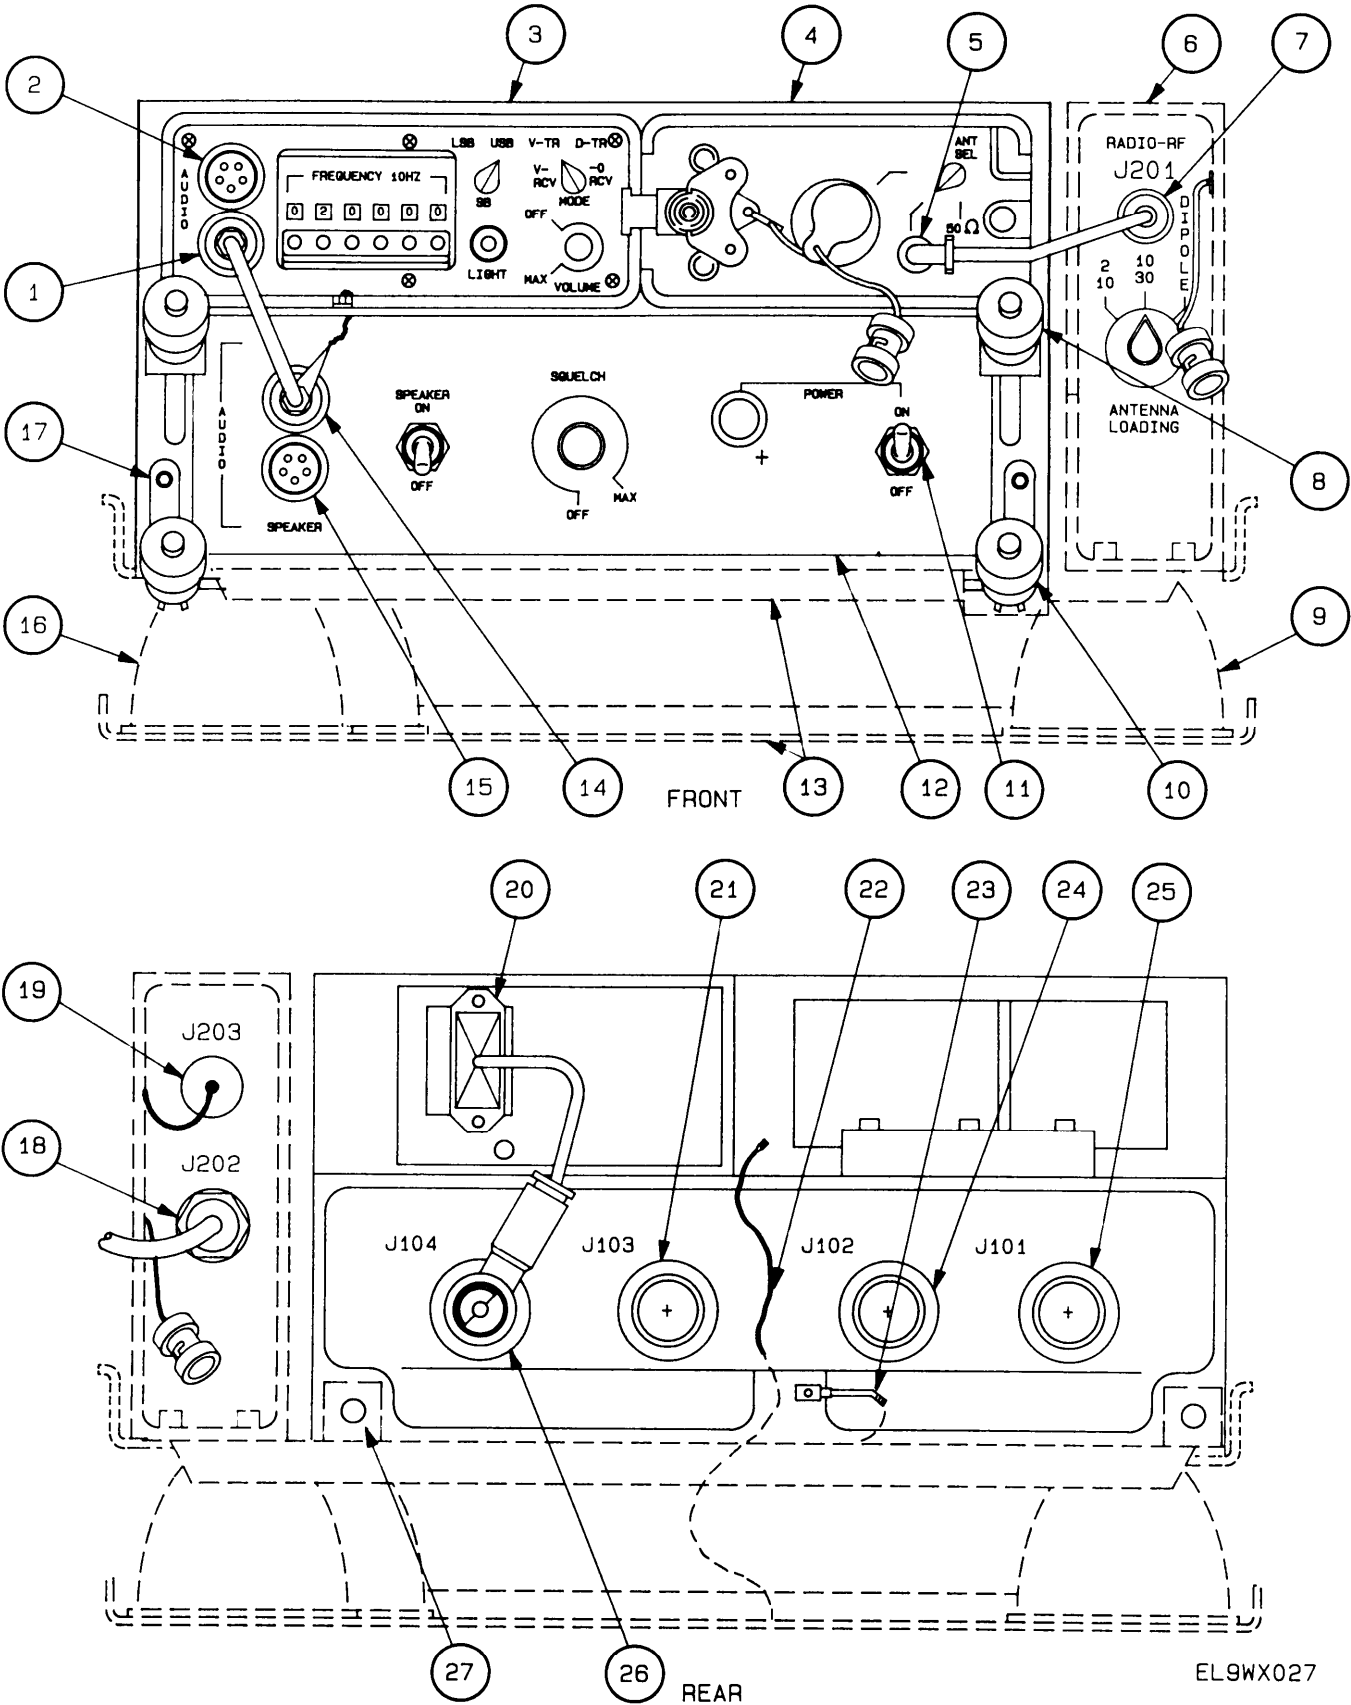

Figure 5-2. Controls and Connectors for Cleaning and Corrosion Control
Sparks may damage power cable or connector J101 (25, fig. 5-2) if POWER circuit breaker on amplifier-power supply is not properly set to OFF in following steps.
- b. Verify POWER circuit breaker (11, fig. 5-2) on amplifier-power supply (12, fig. 5-2) is set to OFF. If necessary, set to OFF.
- c. Remove all dirt, dust, grease, or other debris from AN/GRC-213 and installation kit: with a cloth (item 3, Appx E) or brush (item 1, Appx E), and cleaning compound (item 4, Appx E) or soap (item 5, Appx E) and water.
- d. Rinse all equipment with a clean cloth (item 3, Appx E) moistened in clear water.
- (1) Disconnect handset or cw key from upper AUDIO connector (2, fig. 5-2) on receiver/exciter (3, fig. 5-2).
- (2) Disconnect audio cable from lower AUDIO connector (1, fig. 5-2) on receiver/exciter (3, fig. 5-2) and RADIO AUDIO connector (14, fig. 5-2) on amplifier-power supply (12, fig. 5-2).
- (3) Disconnect loudspeaker from SPEAKER AUDIO connector (15, fig. 5-2) on amplifier-power supply (12, fig. 5-2).
- (4) Disconnect rf cable from BNC connector (5, fig. 5-2) on amplifier/coupler (4, fig. 5-2) and RADIO-RF connector J201 (7, fig. 5-2) on switching unit (6, fig. 5-2).
- (5) Disconnect AN/PRC-104 power cable from connector J104 (26, fig. 5-2) on rear of amplifier-power supply (12, fig. 5-2) and AN/PRC-104 power input connector (20, fig. 5-2) on rear of amplifier/coupler (4, fig. 5-2).
- (6) Disconnect power cable from connector J101 (25, fig. 5-2) located on rear of amplifier-power supply (12, fig. 5-2).
- (7) If AN/VIC-1(V) is used, disconnect intercommunication cable from connector J102 (24, fig. 5-2) on rear of amplifier-power supply (12, fig. 5-2).
- (8) If parallel radio set is used, disconnect its power cable from connector J103 (21, fig. 5-2) on rear of amplifier-power supply (12, fig. 5-2).
- (9) Disconnect vehicular whip antenna cable (part of installation kit) from connector J202 (18, fig. 5-2) and dipole rf or NVIS rf cable (if used) from connector J203 (19, fig. 5-2) on rear of switching unit (6, fig. 5-2) (part of installation kit).
- (1) Disconnect quick-release ground connectors (22 and 23, fig. 5-2), located on rear of amplifier-power supply (12, fig. 5-2), from mounting base (13, fig. 5-2).
- (2) Pull out, loosen, and disengage fasteners (10, fig. 5-2) from hooks (17, fig. 5-2) located on front of amplifier-power supply (12, fig. 5-2).
- (3) Slide amplifier-power supply (12, fig. 5-2) forward until it clears the guide pin assemblies (27, fig. 5-2) and lift amplifier-power supply with latched receiver/exciter (3, fig. 5-2) and amplifier/coupler (4, fig. 5-2) free of mounting base (13, fig. 5-2).
- (4) Pull out and loosen fasteners (8, fig. 5-2) from hooks located on front of receiver/exciter (3, fig. 5-2) and amplifier/coupler (4, fig. 5-2) until fasteners can be disengaged from hooks.
- (5) Slide latched receiver/exciter (3, fig. 5-2) and amplifier/coupler (4, fig. 5-2) units forward to disengage retaining cleats and lift from amplifier-power supply (12, fig. 5-2).
- (6) Lay latched receiver/exciter (3, fig. 5-2) and amplifier/coupler (4, fig. 5-2) on a flat surface and unfasten front and rear latches, respectively, securing the receiver/exciter and amplifier/coupler together.
- (7) Carefully separate receiver/exciter (3, fig. 5-2) and amplifier/coupler (4, fig. 5-2).
- k. Dry components and remove water from inside of each connector with an air jet (if available) or dry cloth (item 3, Appx E).
- l. Inspect the mounting base (13, fig. 5-2) shock mounts (9 and 16, fig. 5-2) for wear by moving mount and looking for excessive free play. If shock mounts are worn, notify organizational maintenance.
- (1) Secure amplifier/coupler (4, fig. 5-2) to receiver/exciter (3, fig. 5-2) and fasten latches.
- (2) Place latched receiver/exciter (3, fig. 5-2) and amplifier/coupler (4, fig. 5-2) on top of amplifier/power supply (12, fig. 5-2).
- (3) Slide latched units toward rear of amplifier-power supply (12, fig. 5-2) until receiver/exciter (3, fig. 5-2) and amplifier/coupler (4, fig. 5-2) fully engage retaining cleats on amplifier-power supply (12, fig. 5-2).
- (4) Tighten fasteners (8, fig. 5-2) overbooks located on front of receiver/exciter (3, fig. 5-2) and amplifier/coupler (4, fig. 5-2) until both units are securely attached to top of amplifier-power supply (12, fig. 5-2).
- (5) Slide amplifier-power supply (12, fig. 5-2) with latched receiver/exciter (3, fig. 5-2) and amplifier/coupler (4, fig. 5-2) onto mounting base (13, fig. 5-2). Rear of amplifier-power supply will be toward rear of mounting base. Slide amplifier-power supply straight back until it is fully seated against guide pin assembly (27, fig. 5-2) located on mounting base.
- (6) Tighten fasteners (10, fig. 5-2) over hooks (17, fig. 5-2) until amplifier-power supply (12, fig. 5-2) is securely attached to mounting base (13, fig. 5-2).
- (7) Connect quick-release ground connectors (22 and 23, fig. 5-2), located on rear of amplifier-power supply (12, fig. 5-2) and receiver/exciter (3, fig. 5-2), to mounting base (13, fig. 5-2).
- (8) Connect vehicular whip antenna cable to connector J202 (18, fig. 5-2) and dipole rf or NVIS rf cable (if used) to connector J203 (19, fig. 5-2) on rear of switching unit (6, fig. 5-2).